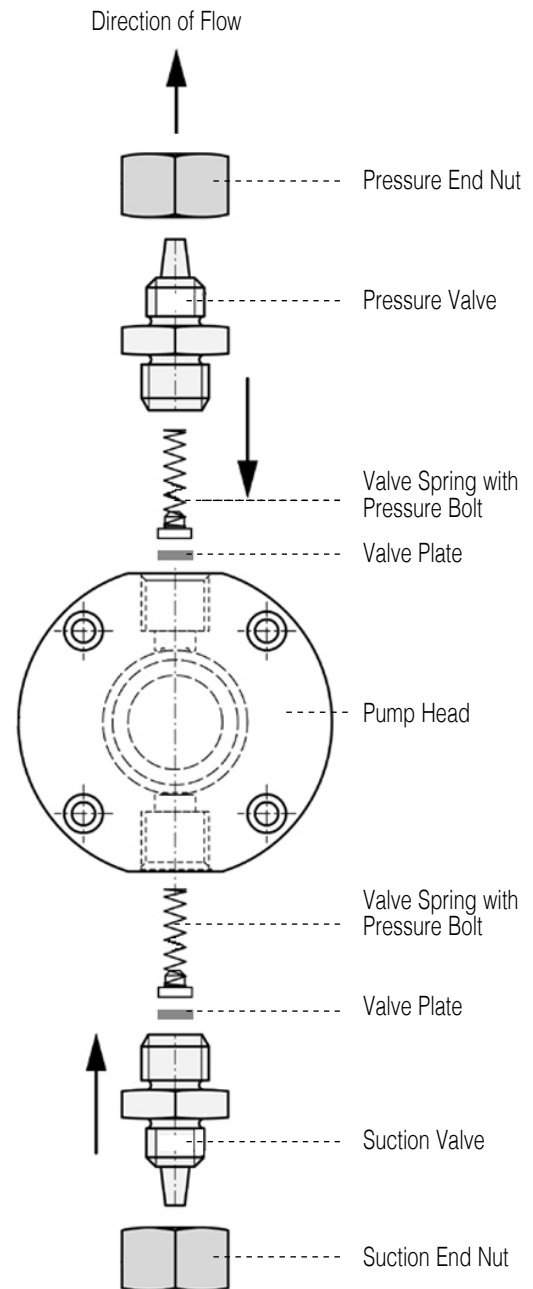

Figure 1
- Replace all parts that are in the new valve plate kit. Make sure all parts go back the way they came. (see Figure 1 on how the parts are placed).